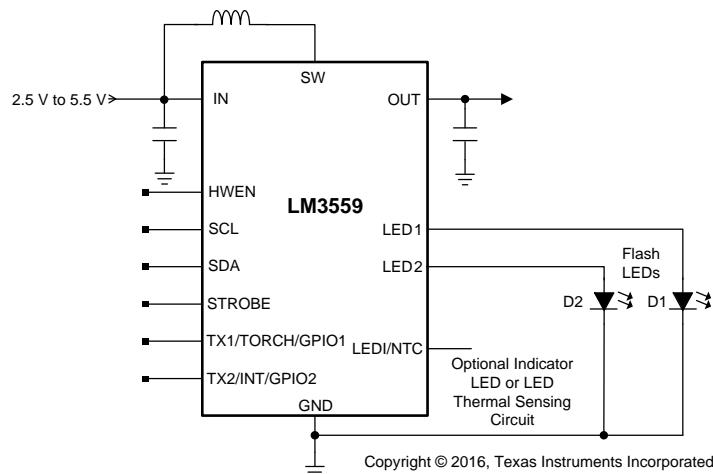

Figure 43. LM3559 Typical Application
Choosing the correct size and type of input capacitor helps minimize the voltage ripple caused by the switching of the device boost converter, and reduces noise on the input terminal of the boost converter that can feed through and disrupt internal analog signals. In the Figure 43 a 10- μ F ceramic input capacitor works well. It is important to place the input capacitor as close as possible to the device input (IN) pin. This reduces the series resistance and inductance that can inject noise into the device due to the input switching currents. Table 20 lists various input capacitors that TI recommends for use with the LM3559.